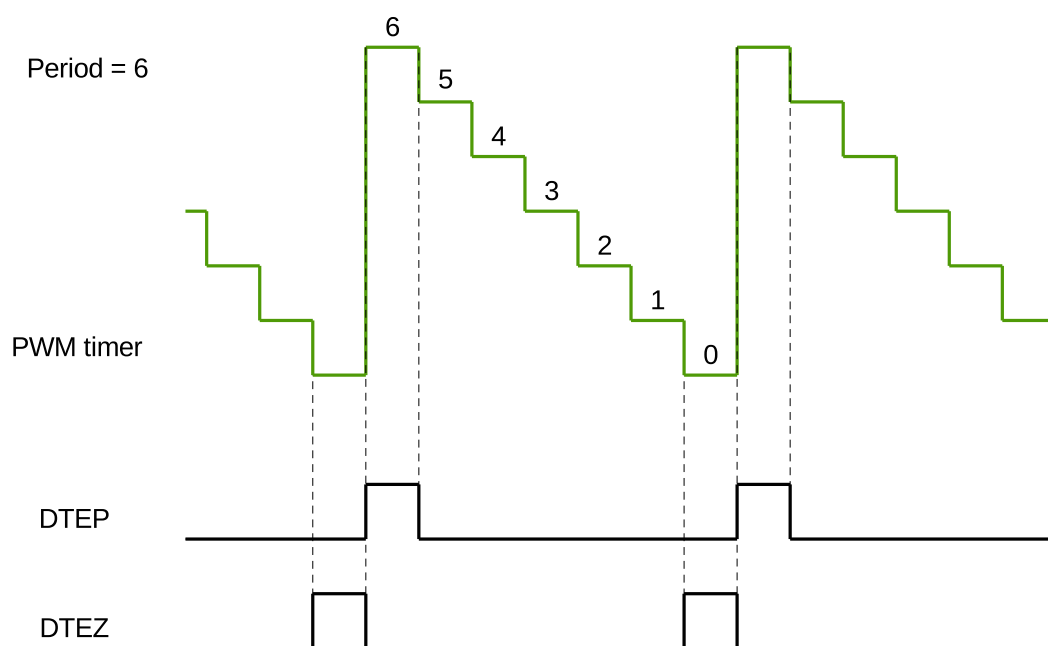

Figure 56.3-10. DTEP and DTEZ Generation in Count-Down Mode
2. DTEP and DTEZ do not happen simultaneously. When the PWM timer is in Count-Down Mode, DTEZ will always happen one cycle earlier than DTEP, as demonstrated in Figure 56.3-10, so their action on PWM signals will not interrupt each other. When the PWM timer is in Count-Up-Down Mode, DTEZ will not occur.